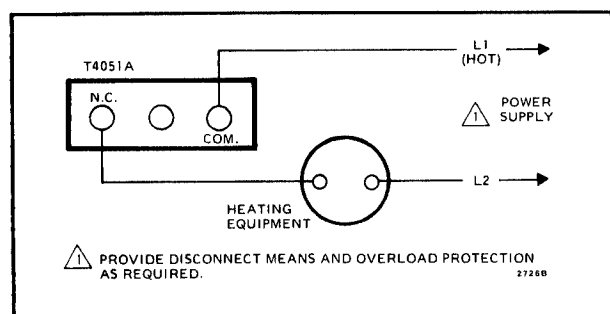

FIG. 5—T4051A HEATING CONTROL.
5. Connect the heating and/or cooling system wires of the series 60 equipment wires to the back terminals of the thermostat (Figs. 5 through 15).